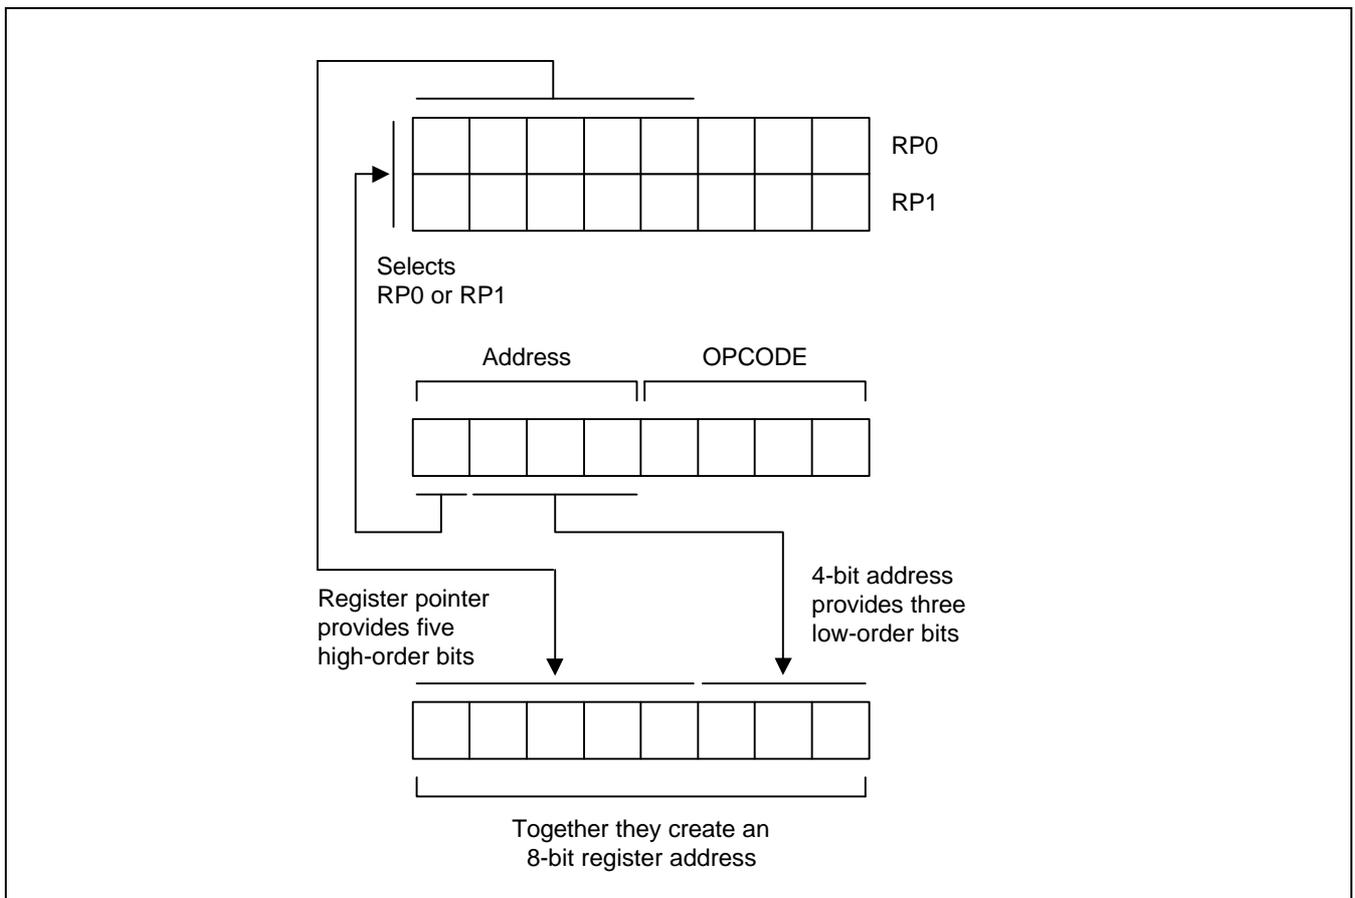

Figure 2-14. 4-Bit Working Register Addressing
Figure 2-14 shows an example of 8-bit working register addressing: the four high-order bits of the instruction address (1100B) specify 8-bit working register addressing. Bit 4 ("1") selects RP1 and the five high-order bits in RP1 (10101B) become the five high-order bits of the register address. The three low-order bits of the register address (011) are provided by the three low-order bits of the 8-bit instruction. The five address bits from RP1 and the three address bits from the instruction are concatenated to form the complete register address, 0ABH (10101011B).